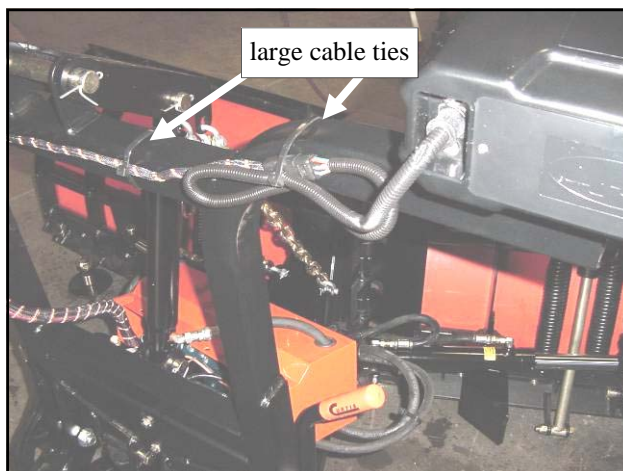

Fig. 9.5 (view showing back side of lift frame)
9.5 Per fig. 9.5, attach the wiring harnesses to the back side of the lift frame as shown using the supplied large cable ties.